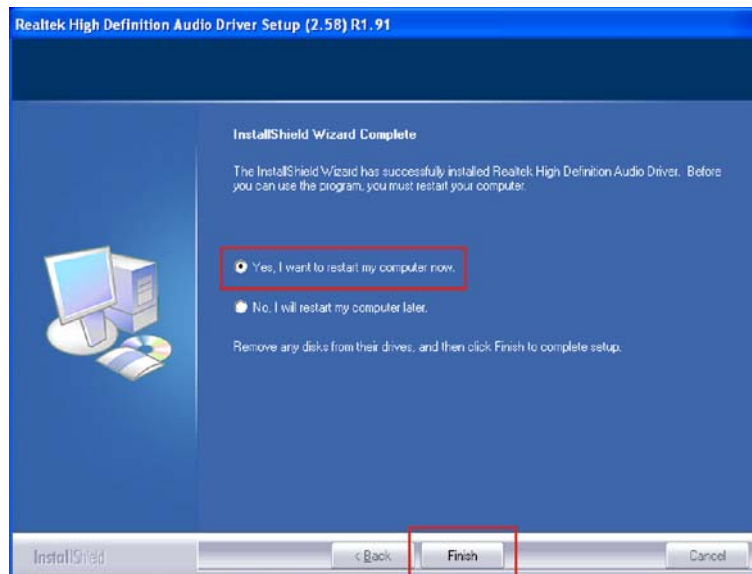

Figure 6-21: InstallShield Wizard Welcome Screen
Step 7: The InstallShield Wizard Complete window appears (Figure 6-21).